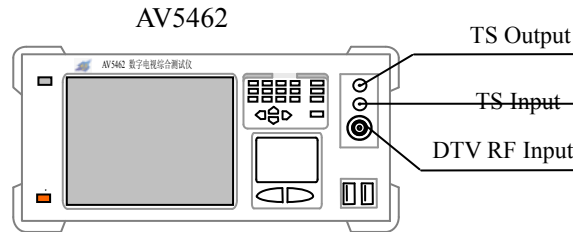

Figure 2-15 Connection for TS Real-Time Analysis
The connection for transport stream(TS) real-time analysis is shown in Figure 2-15. To monitoring the TS